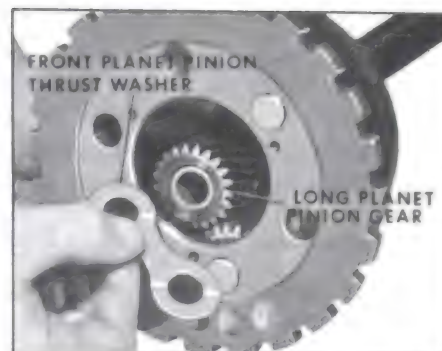

Figure 5-265
10. Remove front planet pinion thrust washer and long planet pinion gear. See Figure 5-265.